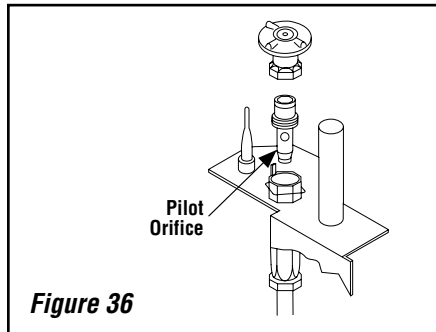

Figure 36
Step 6. Refer to **Figure 36** and remove the pilot hood assembly to access the hexed pilot orifice. Remove and replace the orifice with the one provided with the kit.